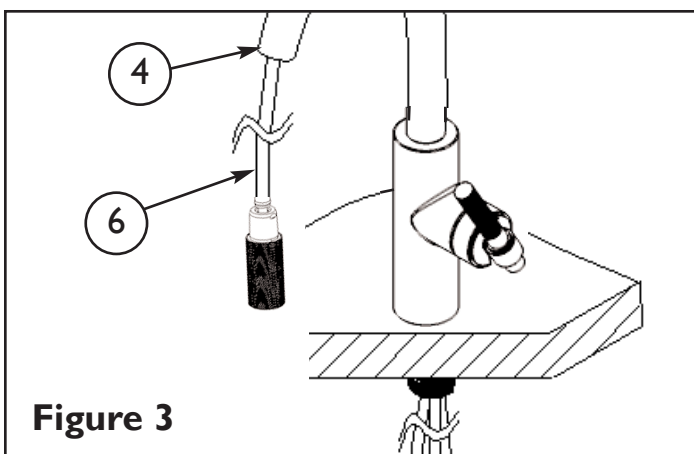

Figure 3
4. **DO NOT** remove the HOSE (6) from SPOUT (4). See Figure 3.